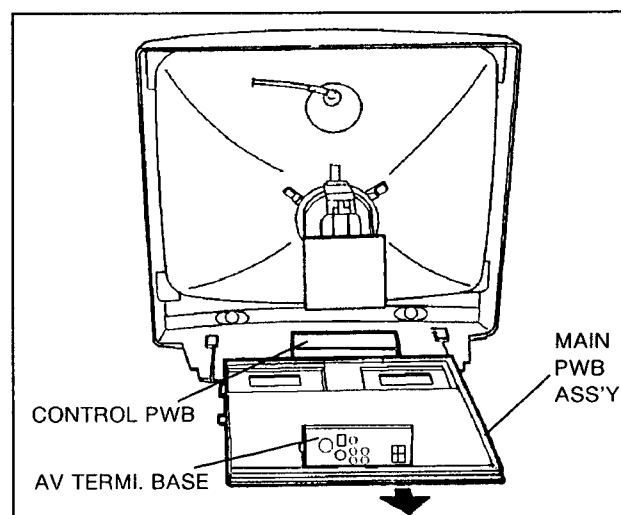

Fig. 2
1. As shown in Fig. 2, slide and pull out the MAIN PWB Ass'y in the direction of arrow. (If necessary, take off the wire clamp and connectors.)